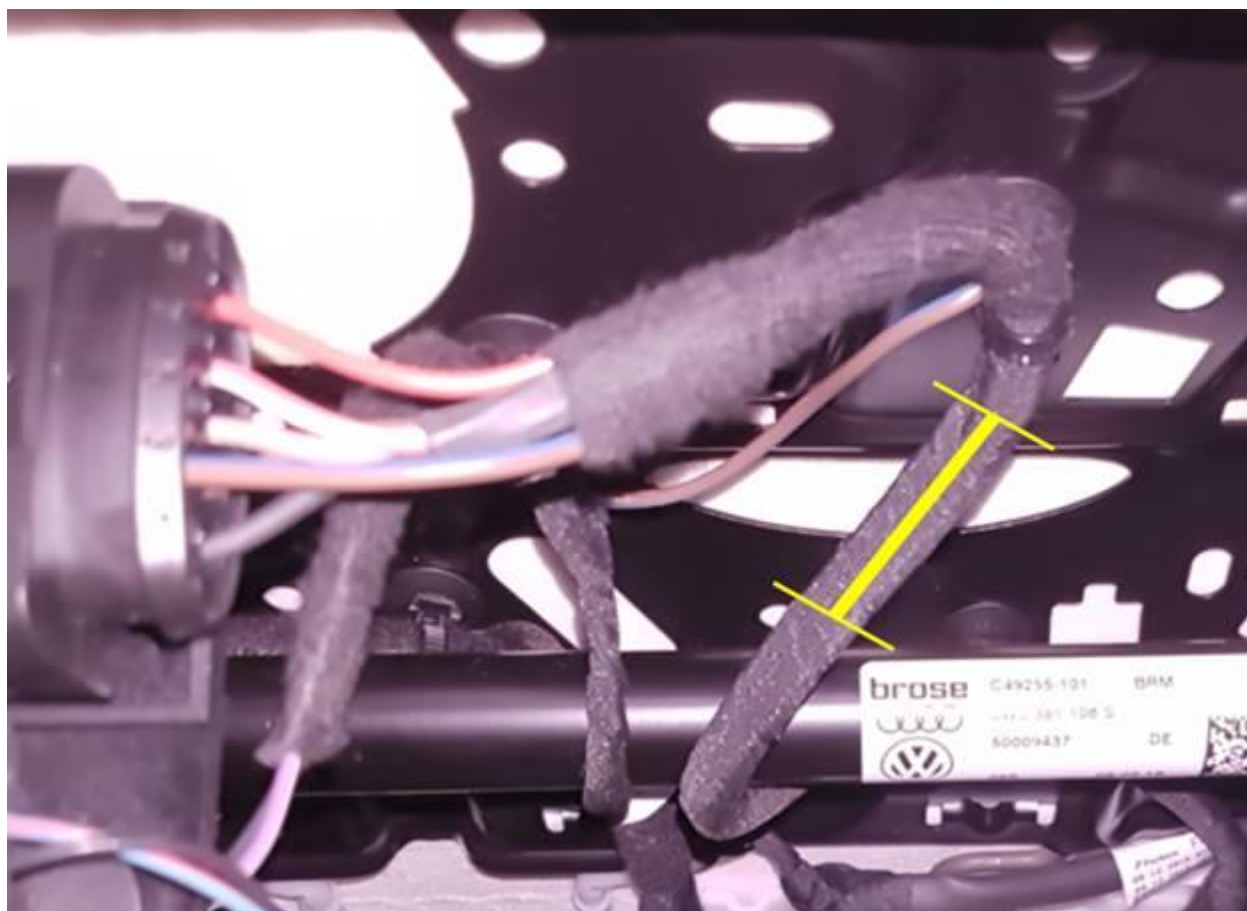

Figure 2. Attach the first cable tie in the yellow area.
2. You will attach the first cable tie in the yellow marked area on the harness between the cable tie clip and the crossbar tube as shown below (Figure 2):